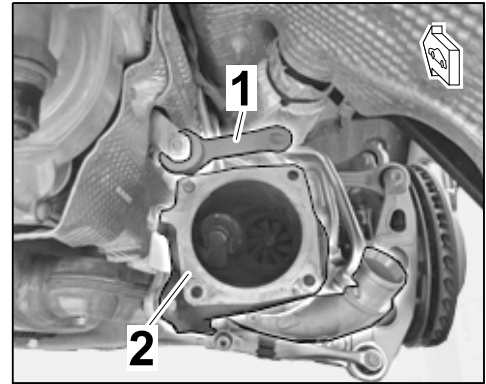

Figure 23
- 3.1.4 Remove turbocharger bracket (cyl. 1–3/cyl. 4–6) ⇒ *Figure 23 -1-*.